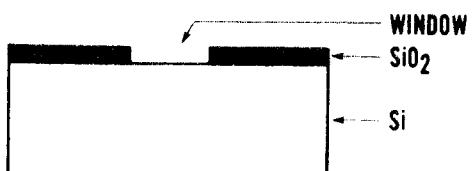

Fig. 8
- (6) The wafer is then dipped into a solution (chromic acid) which washes away the remaining unexposed photo-resist leaving a window in the silicon dioxide through which dopants may pass — figure 8.